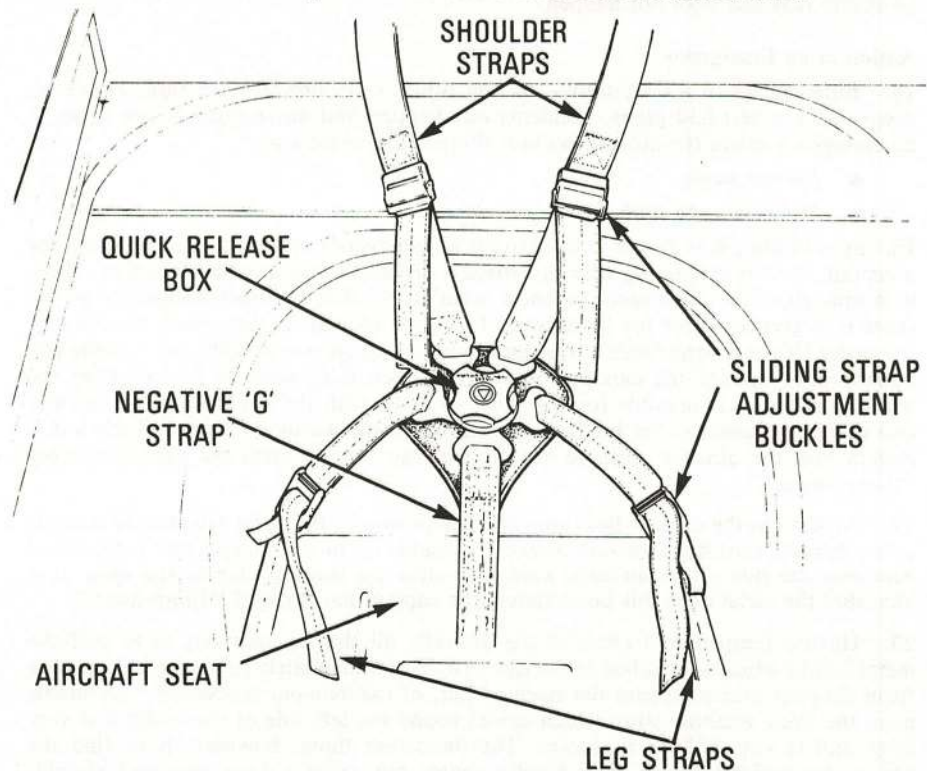

Fig 16 Aircraft Safety Harness—Locked
13. **Description.** The aircraft safety harness is attached to the aircraft itself and ensures that the wearer will not fall out of his seat if the aircraft is inverted. It consists of four adjustable straps plus a fixed negative g strap. Two of the adjustable straps come from behind the seat over the shoulders and down over the chest and the other two are located on each side of the seat coming up over the legs (Fig 16). Once the parachute is fitted and the wearer is sitting in the back seat of the Chipmunk the aircraft safety harness must be put on. It goes on over the parachute harness and is locked with its own quick-release box located in the negative g strap.